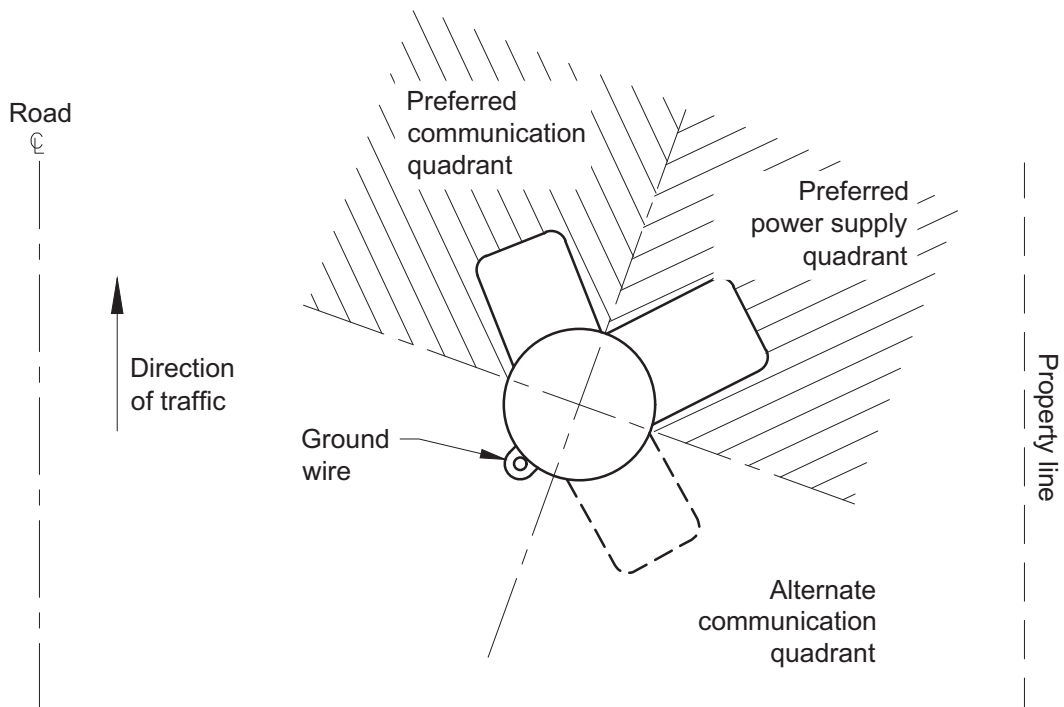

Figure 3 – Preferred installation rotated
8. Use the rotated installation shown in Figure 3 where communication pilaster is not permitted to project past the road side of the pole. Rotate quadrants accordingly.